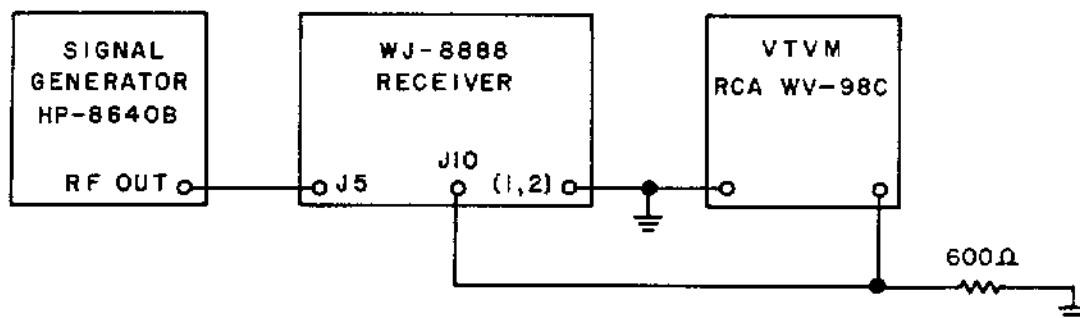

Figure 5-28. Test Setup, LSB/USB/CW Demodulator Adjustments
- (1) Connect the equipment as shown in Figure 5-28. The voltmeter should be connected to pins 1 and 2 of multipin jack J10, and set to its 1.5 V ac range.
- (2) Set the signal generator for a -112 dBm 30 MHz unmodulated RF output.
- (3) Place the receiver in the ISB detection mode and the MAN gain mode. Rotate the RF GAIN control fully clockwise.
(4) Using a set of headphones as an audio monitor, tune the receiver to the signal generator frequency. Adjust the receiver frequency so that a tone of approximately 1 kHz is heard.
(5) Adjust A11R14 for a voltmeter reading of 0.80 V ac. If this reading cannot be obtained, rotate A11R39 counterclockwise until the meter reads 0.80 V ac.
(6) Increase the signal generator RF output level to -92 dBm and note the voltmeter indication. It should not exceed 1.6 V ac (that is, the reading should not increase by more than 6 dB). If the reading exceeds 1.6 V ac, rotate A11R39 slightly clockwise, reset the signal generator for a -112 dBm RF output, and repeat steps (5) and (6).
(7) Referring to Figure 5-28, remove the ac voltmeter probes from pins 1 and 2 of J10 and place them instead in pins 3 and 4. Repeat steps (4) through (6), making the adjustments on board A12 (LSB demodulator) instead of A11 (USB/CW demodulator).